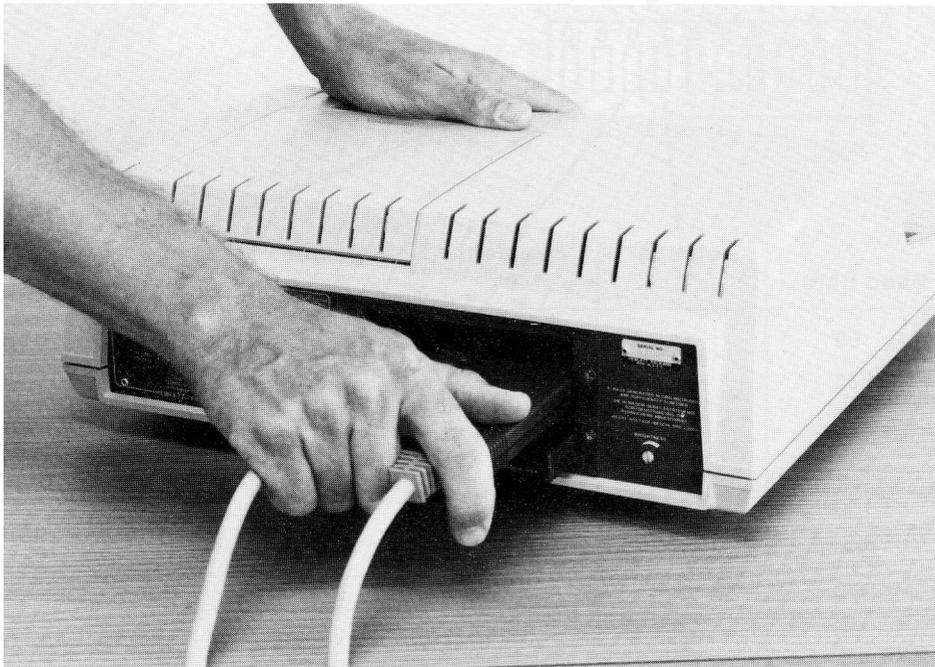

Figure 2-6. Installing the Interface Into the HP-85 Backplane
3. Insert the interface end of the cable into any of the four I/O slots in the back of the mainframe (see Figure 2-6). Make sure the interface is firmly seated in the slot.